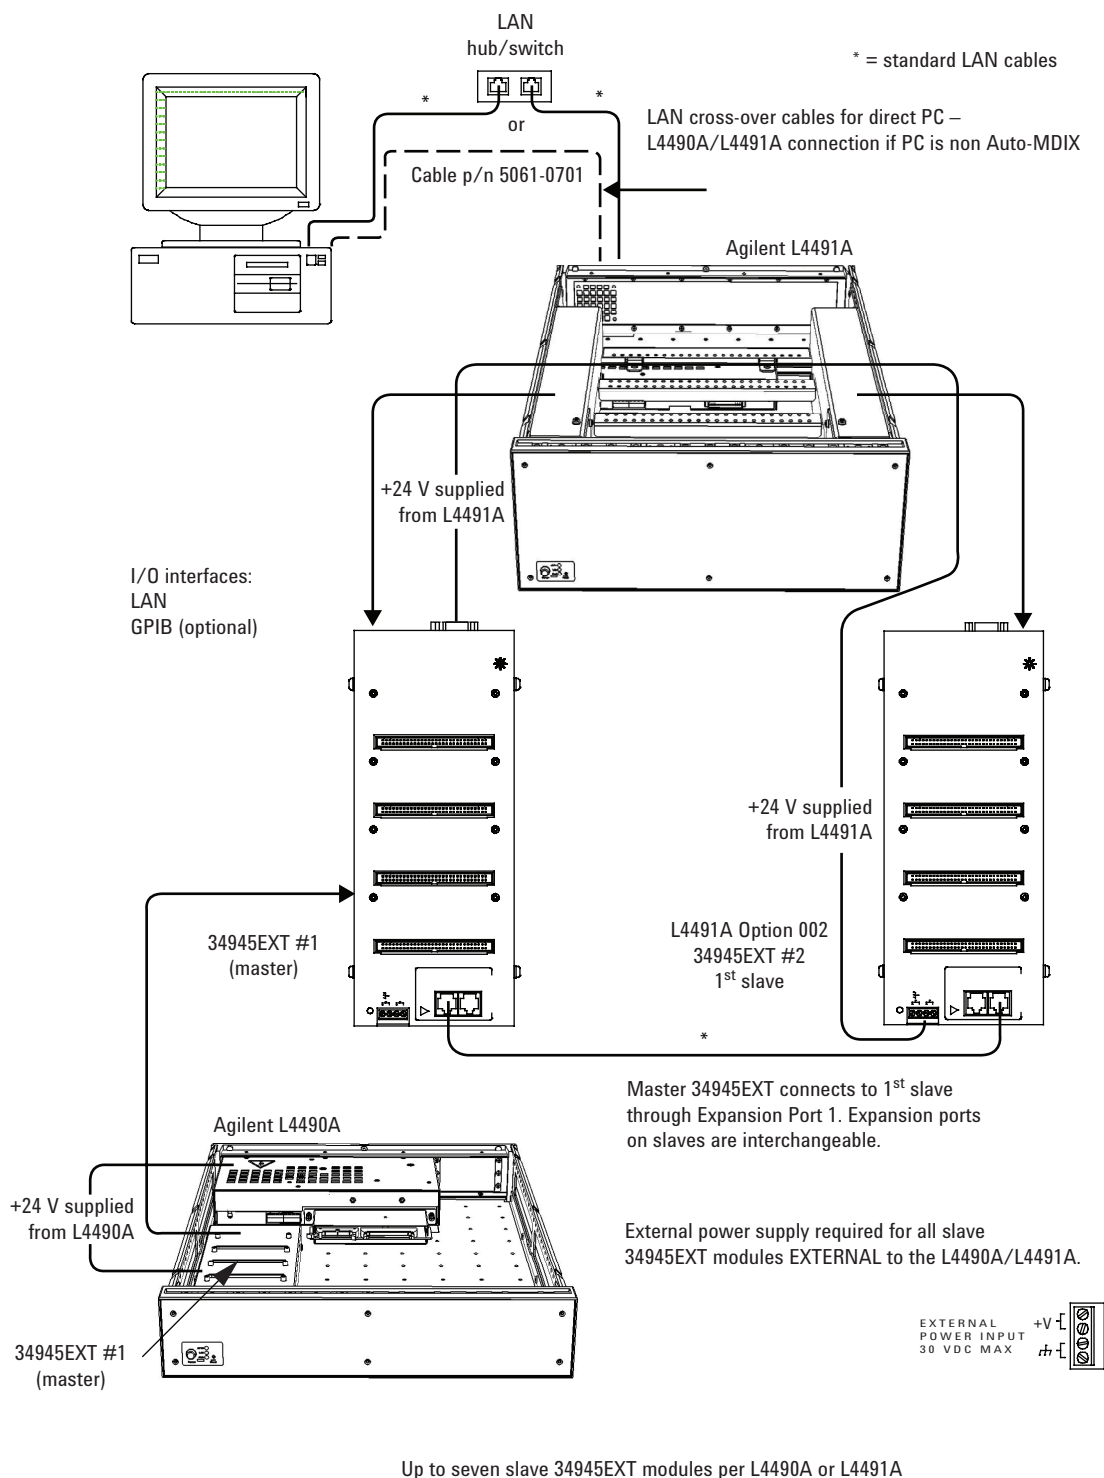

Figure 3. L4490A and L4491A Internal Configuration and Typical Connections
The internal configuration and typical system connections are shown in Figure 3.
- **Option 002:** Adds an additional 34945EXT module internal to the L4491A chassis (Figure 3).